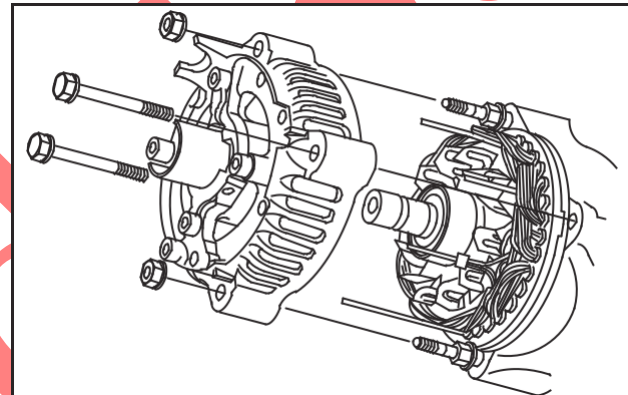

Fig. 27 – Remove Brush End Housing
9. Remove brush end housing being careful not to damage stator leads, Fig. 27.